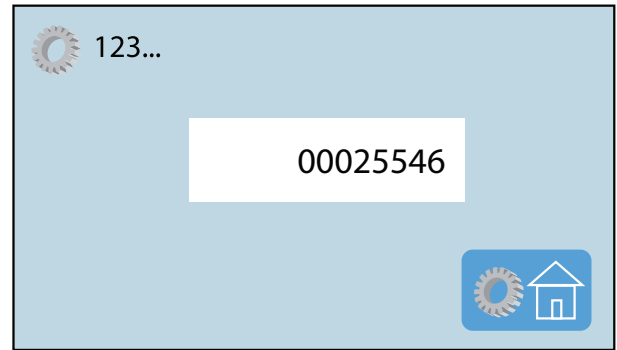

Fig. 64
2. The lifecount will be displayed (Fig. 64).